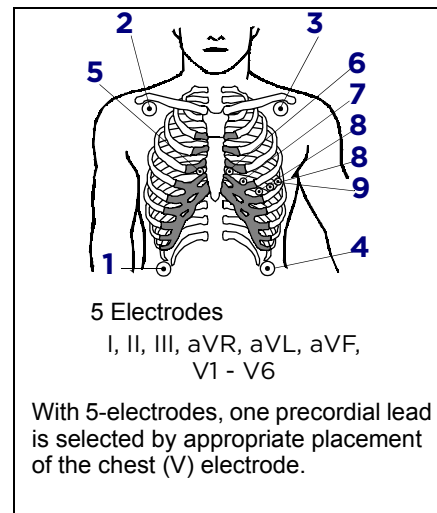

Figure 3-2 Adult electrode placement
- To minimize muscle artifact, place electrodes over flat, non-muscular areas of the body (refer to Figure 3-2). This is important for telemetry patients who are usually ambulatory.